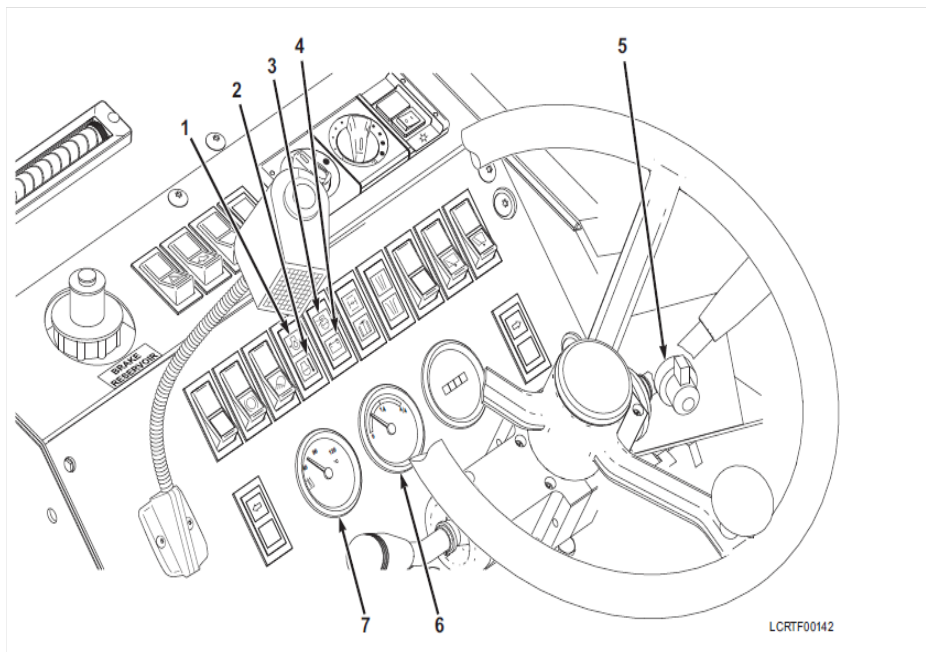

Figure 3-74
5. Turn the ignition switch (Figure 3-74, Item 5) clockwise to the ign/start position. Release the switch as soon as the engine starts. If the engine fails to start on the first try, wait until engine and starter have come to a complete stop. Then, return the switch to the off position before attempting to start engine again.
6. After engine starts, return accelerator pedal to idle position for approximately 3 minutes. Ensure that readings on gauges (Figure 3-74, Item 6 and 7) are within normal operating ranges and warning lights (Figure 3-74, Items 1, 2, 3, and 4) are not illuminated before moving vehicle.